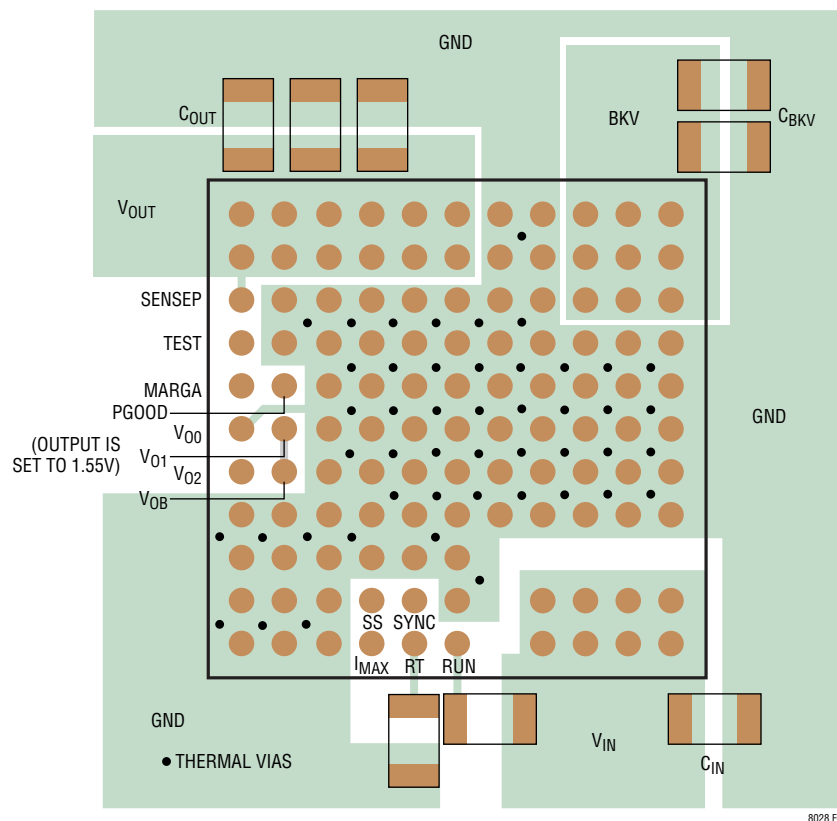

Figure 4. Layout Showing Suggested External Components, GND Plane and Thermal Vias
minimize EMI and ensure proper operation. Even with the high level of integration, you may fail to achieve specified operation with a haphazard or poor layout. See Figure 4 for a suggested layout. Ensure that the grounding and heat sinking are acceptable.
6. Use vias to connect the GND copper area to the board's internal ground planes. Liberally distribute these GND vias to provide both a good ground connection and thermal path to the internal planes of the printed circuit board. Pay attention to the location and density of the thermal vias in Figure 4. The LTM8028 can benefit from the heat sinking afforded by vias that connect to internal GND planes at these locations, due to their proximity to internal power handling components. The optimum number of thermal vias depends upon the printed circuit board design. For example, a board might use very small via holes. It should employ more thermal vias than a board that uses larger holes.